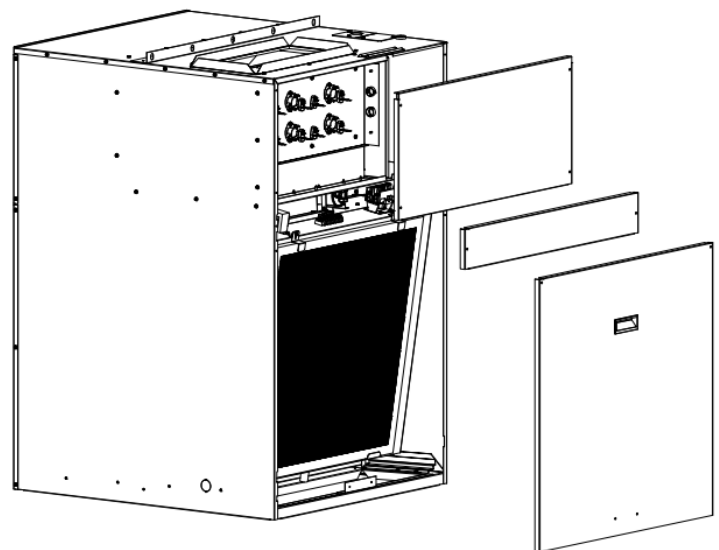

FIGURE 42 - Removal of Front Panel
- 1) Remove screws (8) from top front panel, control cover panel and air filter access panel, then remove all these three panel from the cabinet. See **FIGURE 42 - Removal of Front Panels.**